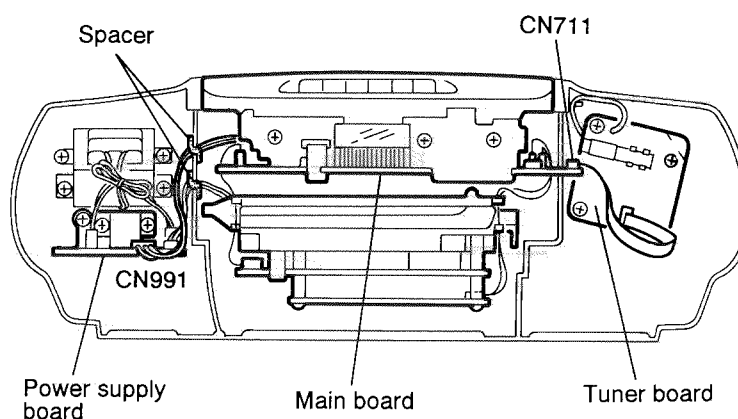

Fig. 5-7
■ Removing the cassette mechanism assembly (See Fig. 5-7)